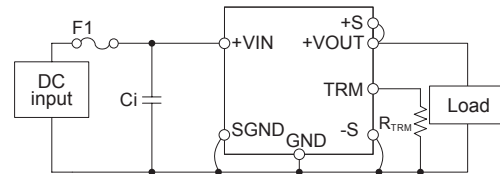

Fig.2.1 Connection for standard use
■In order to use power supply, it is necessary to wire as shown in Fig 2.1.